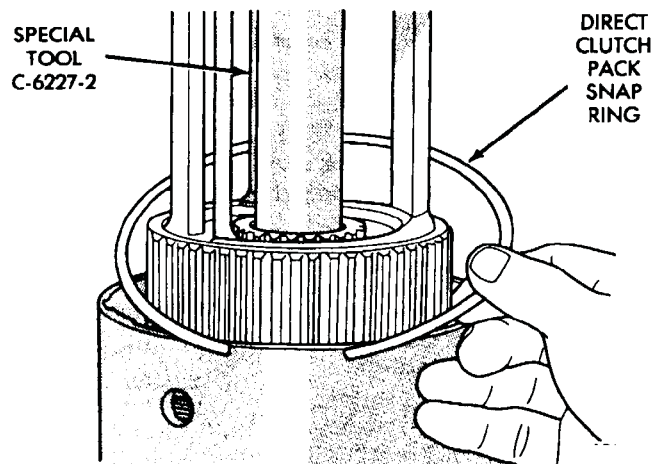

Fig. 62 Direct Clutch Pack Snap Ring Installation
(28) Install direct clutch pack snap ring (Fig. 62). **Be very sure snap ring is fully seated in clutch drum ring groove.**